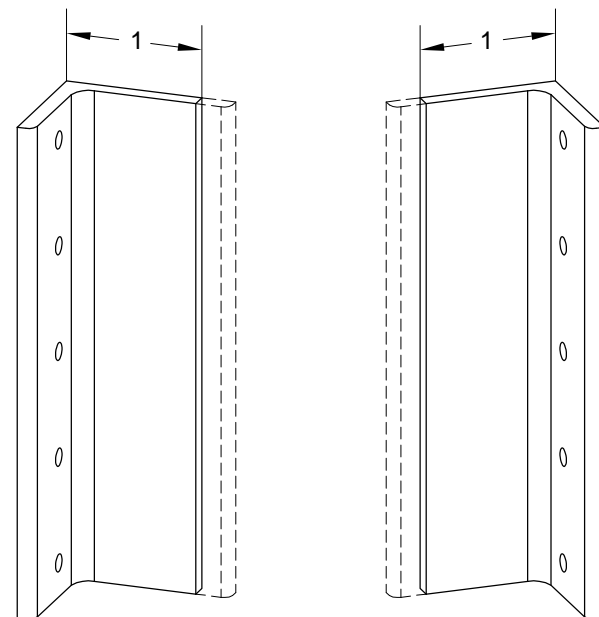

FIGURE 2: F-1236B OUTBD STEP ATTACH ANGLES
Step 2: As shown in Figure 2, make the F-1236B-L & -R Outbd Step Attach Angles by trimming the flanges of two of the angles separated in Step 1. (At this point these two parts are identical, but will become left and right once they are drilled in a later step.)